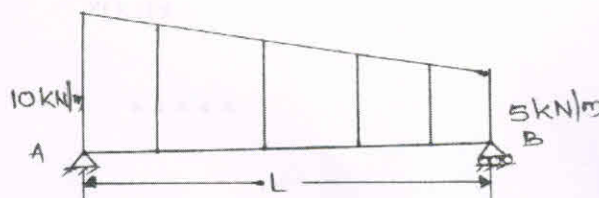

Fig.Q4(b)
- b. Compute the area of bending moment diagram for beam shown Fig.Q4(b) by Simpson's rule using six equal segments i.e $h = L/6$. (10 Marks)